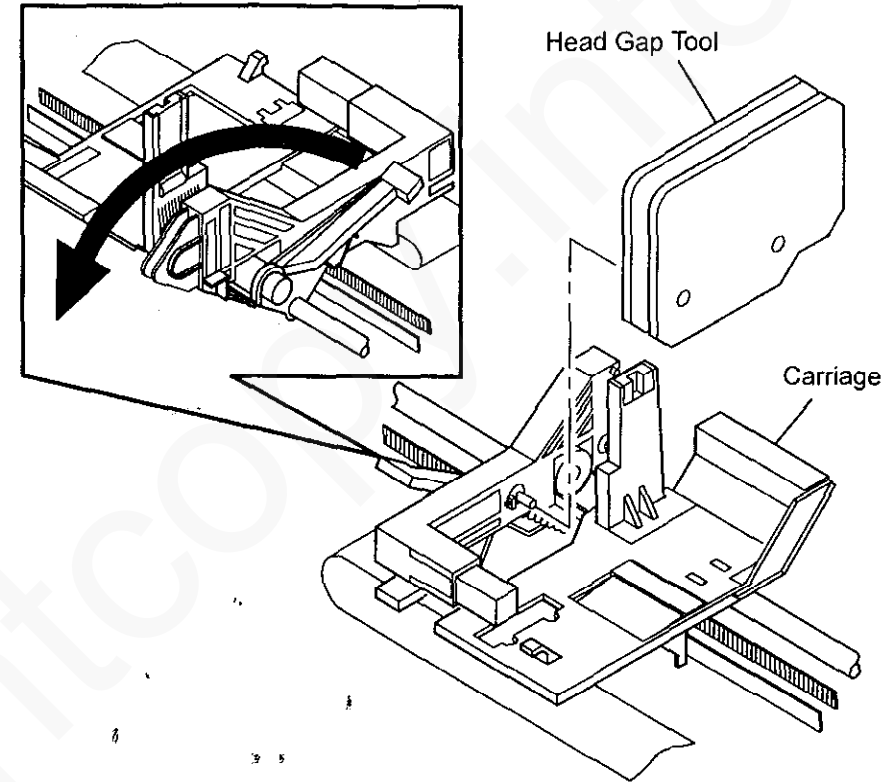

Figure 1 Installing the Head Gap Tool
2. Install the Head Gap Tool into the Carriage (Figure 1).